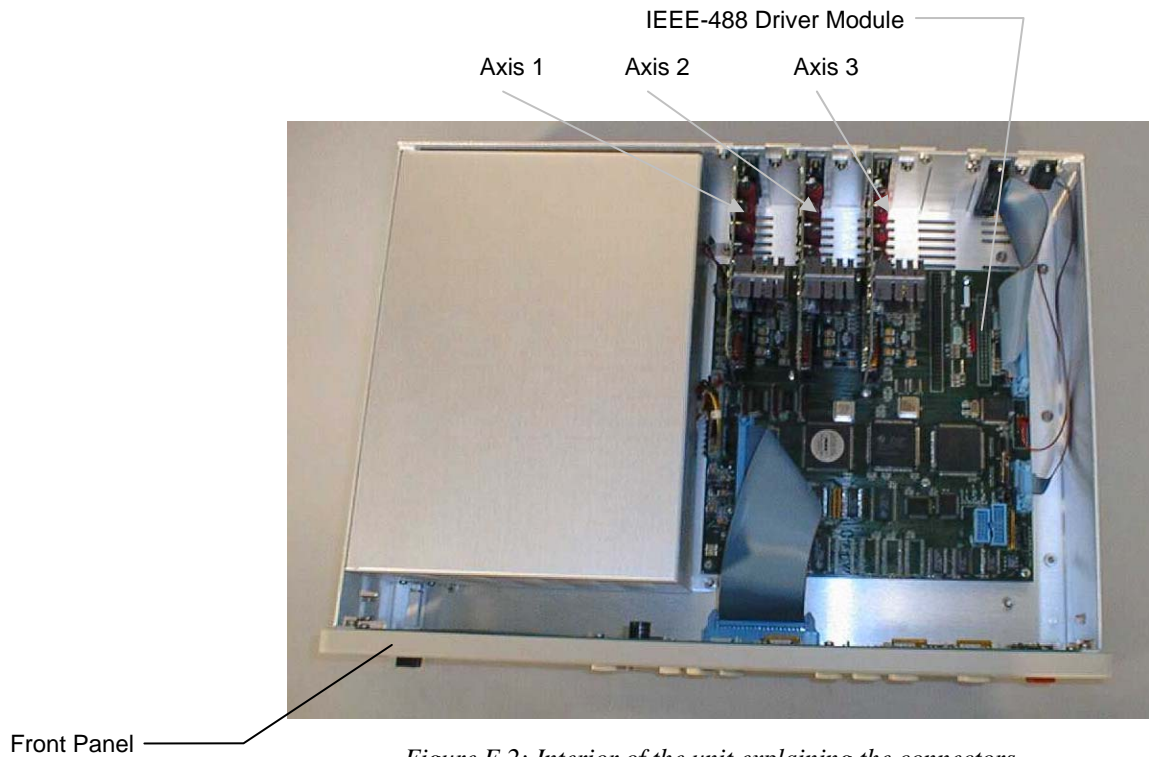

Figure E.2: Interior of the unit explaining the connectors
4. Insert the driver module for the respective axis. The connector of the driver module is keyed to prevent insertion with improper polarity. Make sure the keys line up properly before you try to insert the module (See **Figure E.2**).